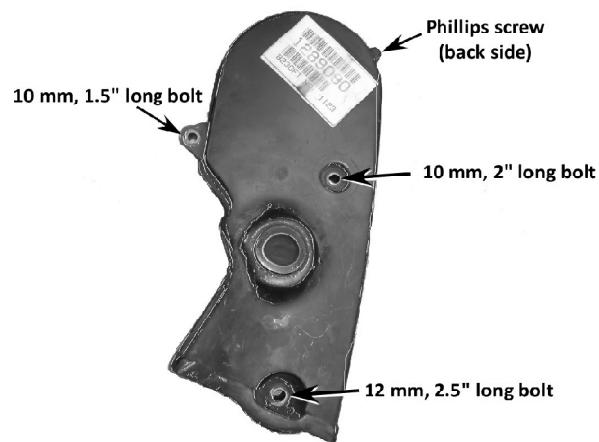

Figure 3. Remove all of the fasteners for the upper timing belt cover, as shown. During reassembly, this diagram will guide you as to which fastener goes where.
14. Install upper timing belt cover. Refer to **Figure 3**.